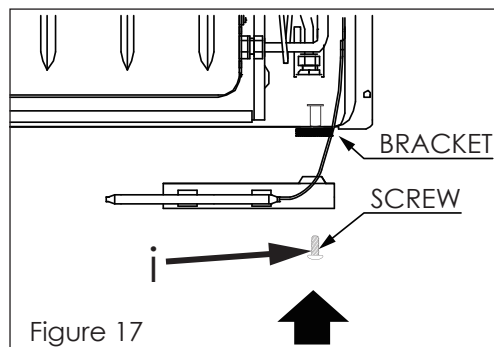

Figure 17
- Place the thermostat sensor under the right bottom of the bracket and attach it with the provided medium screw (i) that fixes the appliance to the bracket as shown in figures 17 and 18.